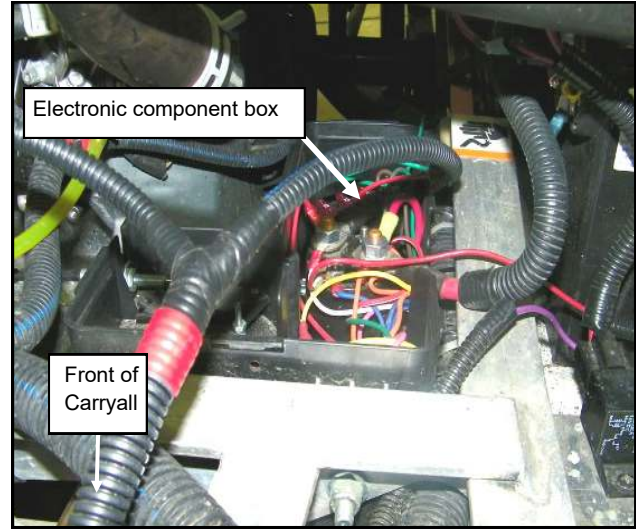

Figure 4.2
- 4.2 Remove the screw that secures the cover to the electronic component box in the compartment under the driver's seat as shown. Retain the screw and cover for reinstallation. (Figure 4.2).